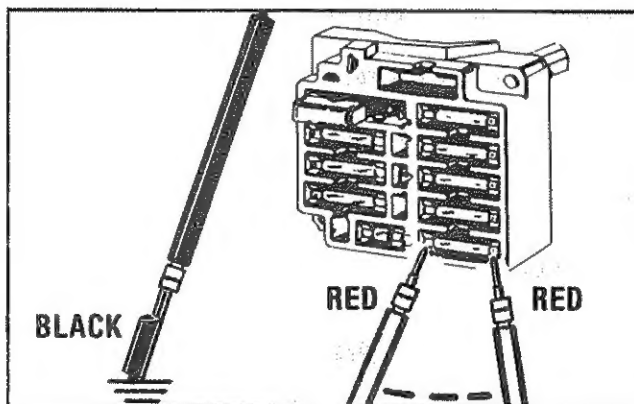

Figure 7. Fuse Testing.
4. Touch black test probe to a ground on the engine or car frame (figure 7).